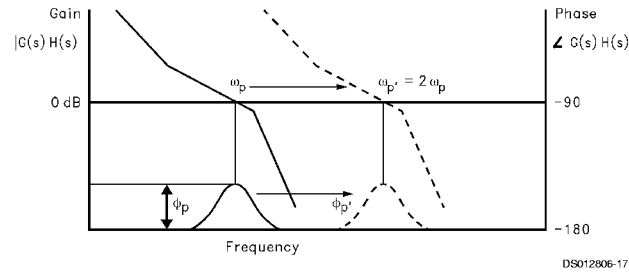

FIGURE 4. Open Loop Response Bode Plot
A plot of the magnitude and phase of $G(s)H(s)$ for a stable loop, is shown in *Figure 4* with a solid trace. The parameter ϕ_p shows the amount of phase margin that exists at the point the gain drops below zero (the cutoff frequency ω_p of the loop). In a critically damped system, the amount of phase margin would be approximately 45 degrees.
If we were now to redefine the cut off frequency, ω_p' , as double the frequency which gave us our original loop bandwidth, ω_p , the loop response time would be approximately halved. Because the filter attenuation at the comparison frequency also diminishes, the spurs would have increased by approximately 6 dB. In the proposed Fastlock scheme, the higher spur levels and wider loop filter conditions would exist only during the initial lock-on phase—just long enough to reap the benefits of locking faster. The objective would be to open up the loop bandwidth but not introduce any additional complications or compromises related to our original design criteria. We would ideally like to momentarily shift the curve of *Figure 4* over to a different cutoff frequency, illustrated by the dotted line, without affecting the relative open loop gain and phase relationships. To maintain the same gain/phase relationship at twice the original cutoff frequency, other terms in the gain and phase *Equation (4)* and *Equation (5)* will have to compensate by the corresponding "1/w" or "1/w²" factor. Examination of equations *Equations (2)*, *(3)* and *Equation (5)* indicates the damping resistor variable $R2$ could be chosen to compensate the "w" terms for the phase margin. This implies that another resistor of equal value to $R2$ will need to be switched in parallel with $R2$ during the initial lock period. We must also insure that the magnitude of the open loop gain, $H(s)G(s)$ is equal to zero at $\omega_p' = 2\omega_p$. K_{VCO} , K_ϕ , N , or the net product of these terms can be changed by a factor of 4, to counteract the w^2 term present in the denominator of *Equation (2)* and *Equation (3)*. The K_ϕ term was chosen to complete the transformation because it can readily be